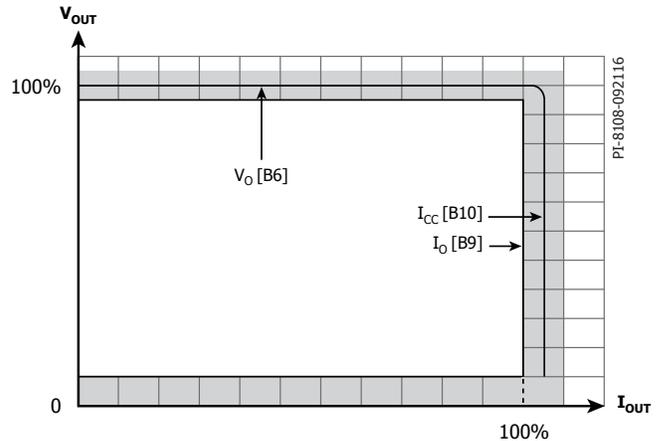

Figure 4. VI Curve With Parameter Positions Identified.
- Enter the minimum required output current value,  $I_o$  [B9]. Notice that cell [E10] is updated with a suggested minimum CC value for ICC. See Figure 4.
- Enter the required CC limit, ICC [B10], if it is higher than the suggested minimum I [E10]. See Figure 4.
This is the nameplate current and is the current that must be supplied at the nameplate voltage, before the VI curve follows the decreasing voltage CC characteristic. It is the output current level at which efficiency measurements are taken. See Figure 4.